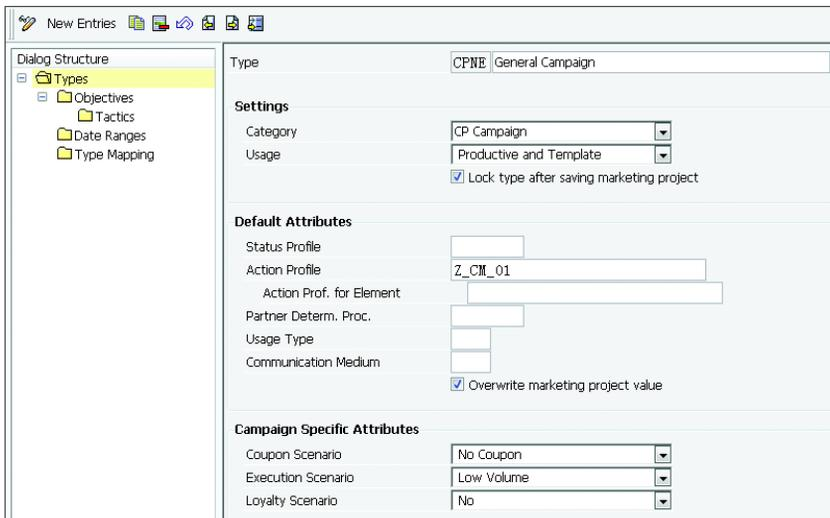

Figure 5.30 Action Profile Assignment to the Campaign Type
- Navigate to SPRO • CUSTOMER RELATIONSHIP MANAGEMENT • MARKETING • MARKETING PLANNING AND CAMPAIGN MANAGEMENT • BASIC DATA • DEFINE TYPES/OBJECTIVES/TACTICS. As shown in Figure 5.30, assign the action profile created to the campaign type.